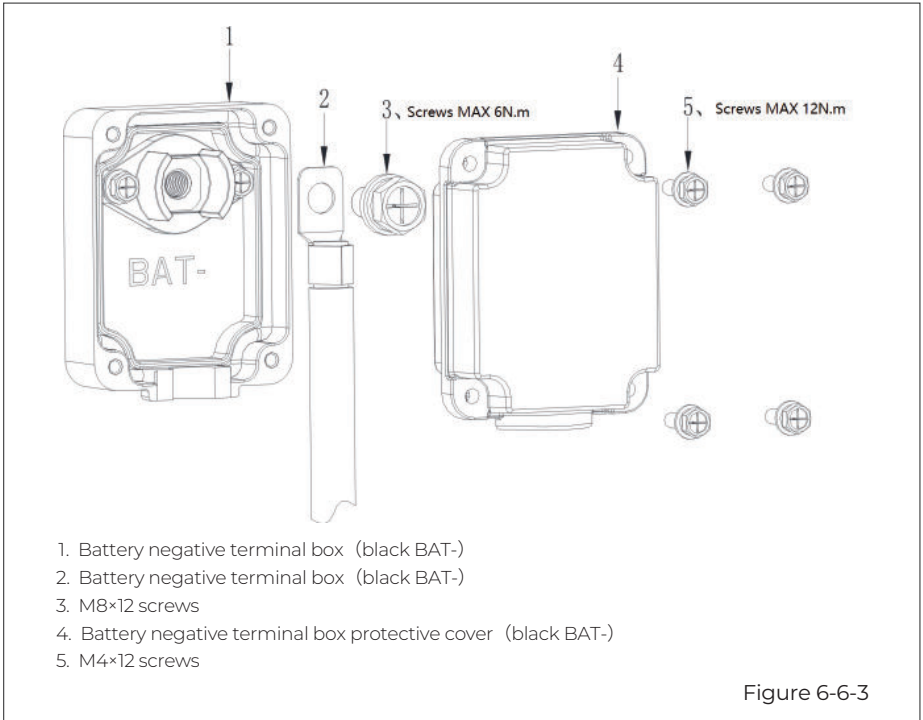

Figure 6-6-3
Step 2 : Connect the negative battery cable to the terminal of the negative junction box, and fasten the M8 screw with a screwdriver or sleeve. The recommended tightening torque is 8N.m. Then put the negative protective cover into the negative terminal box, and fasten the M4 screw with a screwdriver. The recommended tightening torque is 2N.m(Figure 6-6-3);